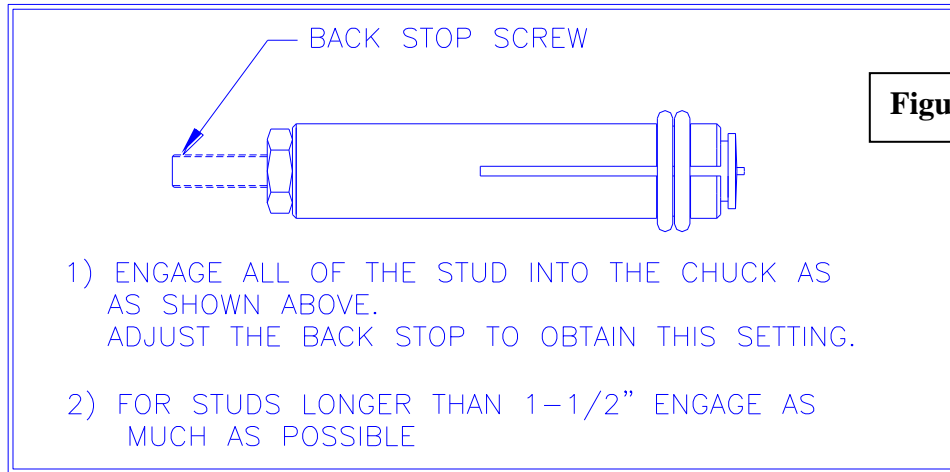
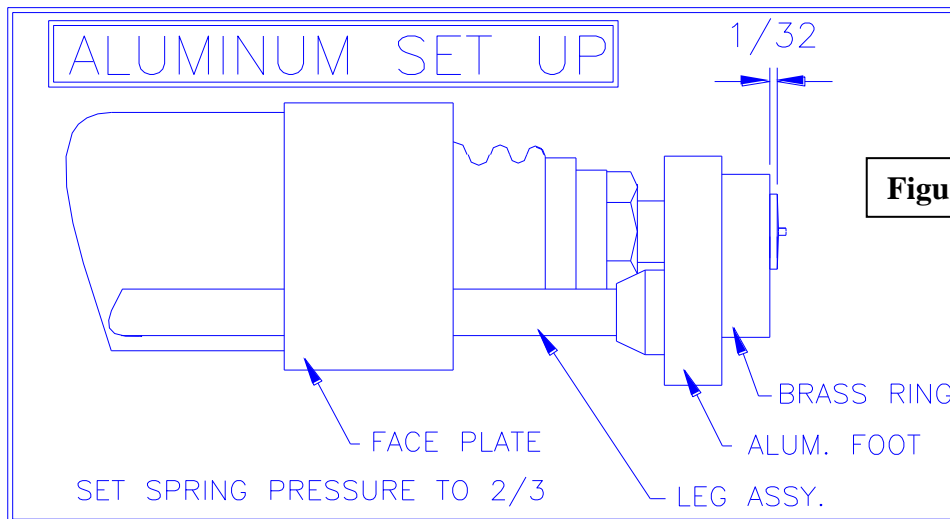
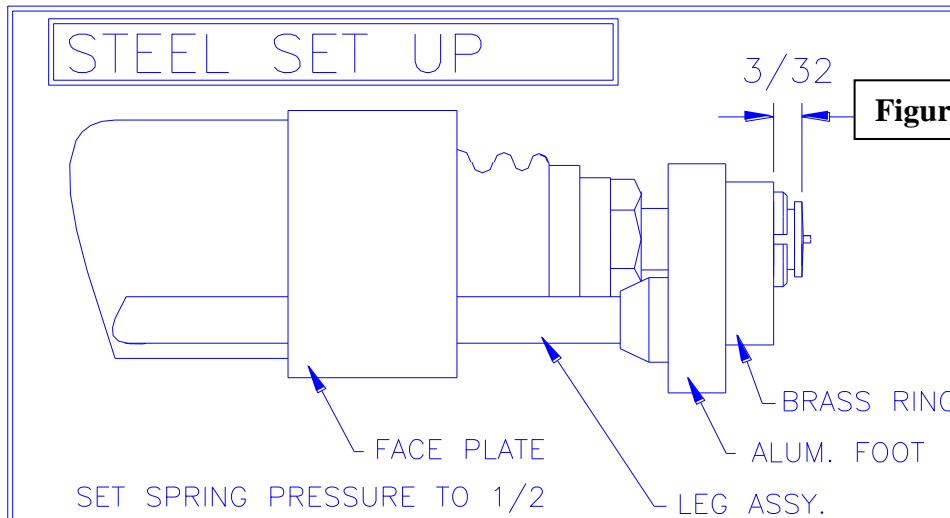

Figure 1
Figure 2
Figure 3
Figure 1 depicts the optimal set up for the fastener in the chuck. To set the stud in the chuck, loosen the backstop screw until the fastener extends approximately 1/8" from the front of the chuck. Tighten the back stop locking nut to preserve this setting. For fasteners longer than 1-1/2", back the stop all the way out to obtain as much engagement in the chuck as possible.
If you are welding to aluminum, the set up of the gun will be as depicted in Figure 2. First follow the directions for Figure 1. Then fully insert the chuck into the gun and tighten the chuck locking nut. Loosen the two legs by releasing the four (4) set screws in the faceplate. Adjust the legs so that only the flange (approximately 1/32") of the fastener is observed beyond the brass ring. Tighten the four (4) set screws in the legs. Finally, adjust the spring pressure at the slot screw in the rear of the gun. The pressure should be set to positive (+).
If you are welding to mild steel or stainless steel, the set up of the gun will be as depicted in Figure 3. First follow the directions for Figure 1. Then fully insert the chuck into the gun and tighten the chuck locking nut. Loosen the two legs by release the four (4) set screws in the faceplate. Adjust the legs so that approximately 3/32" of fastener is observed beyond the brass ring. Tighten the four (4) set screws in the legs. Finally, adjust the spring pressure at the slot screw in the rear of the gun. The pressure should be set to negative (-).